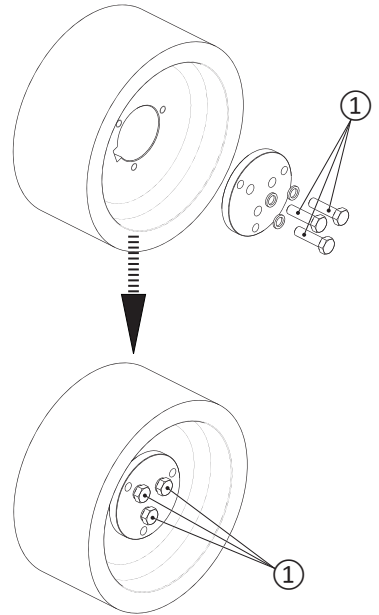

Figure 5
- Position the securing plate, grower and bolts as shown in “Figure 5”.
- Tighten the bolts ① in circular sequence to a torque of 130 Nm.
① SCREWS M14x50